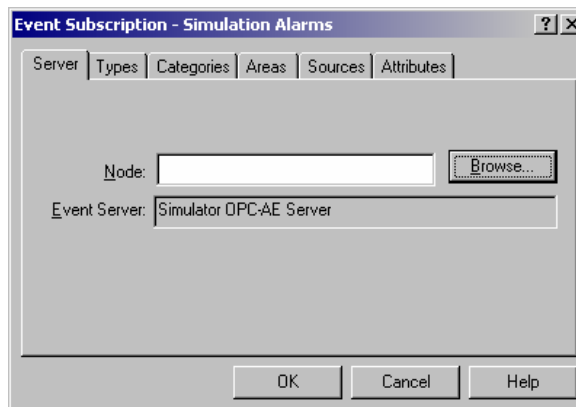

Figure A.45. Defining the Alarm and Event Subscription
9. The selected server will now appear in the **Event Server** field of the **Event Subscription** dialog box, as shown in Figure A.45.